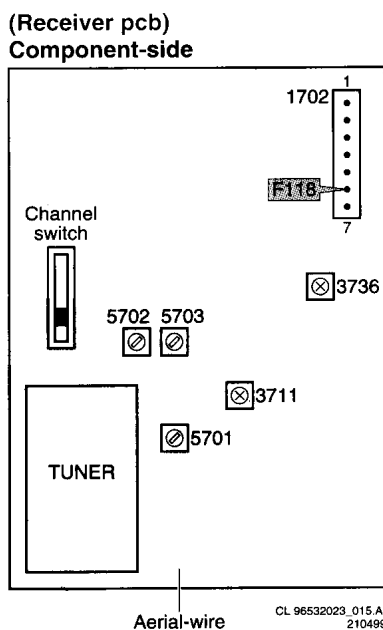

Figure 8-33
- (see Fig. 8.33). if alignment equipment is available module can be aligned according described alignment-instructions: (note: the alignment-components are covered by glue, so this must be cleaned first).